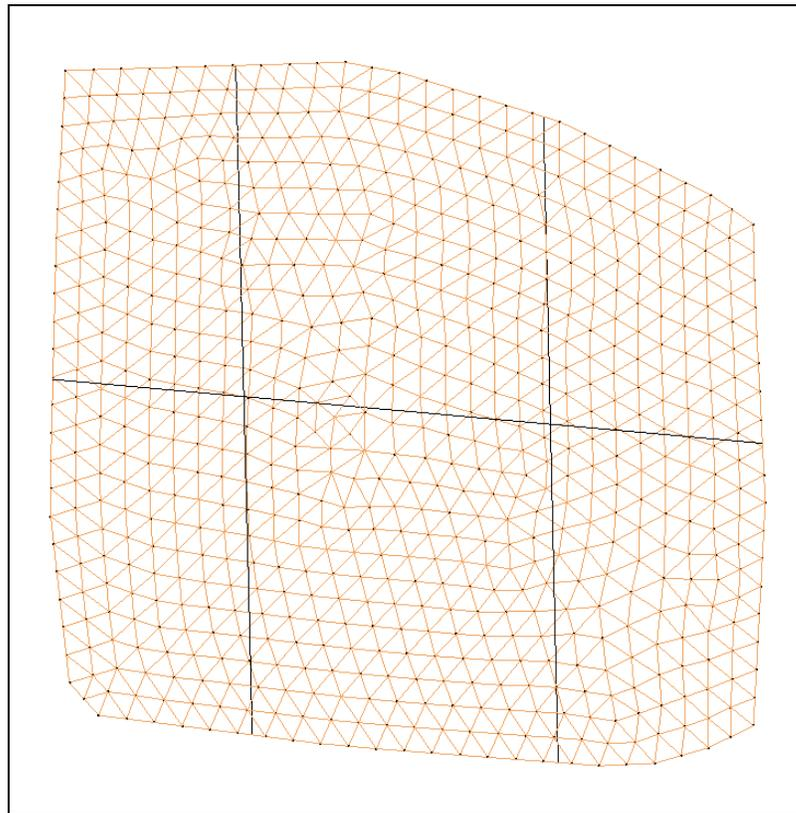

Figure 11 Cross sections through stratigraphy model
2. Using the **Create Cross Section**  tool, cut three cross sections through the solid similar to the ones shown in Figure 11. Single-click to begin making a cross section and double-click to end.